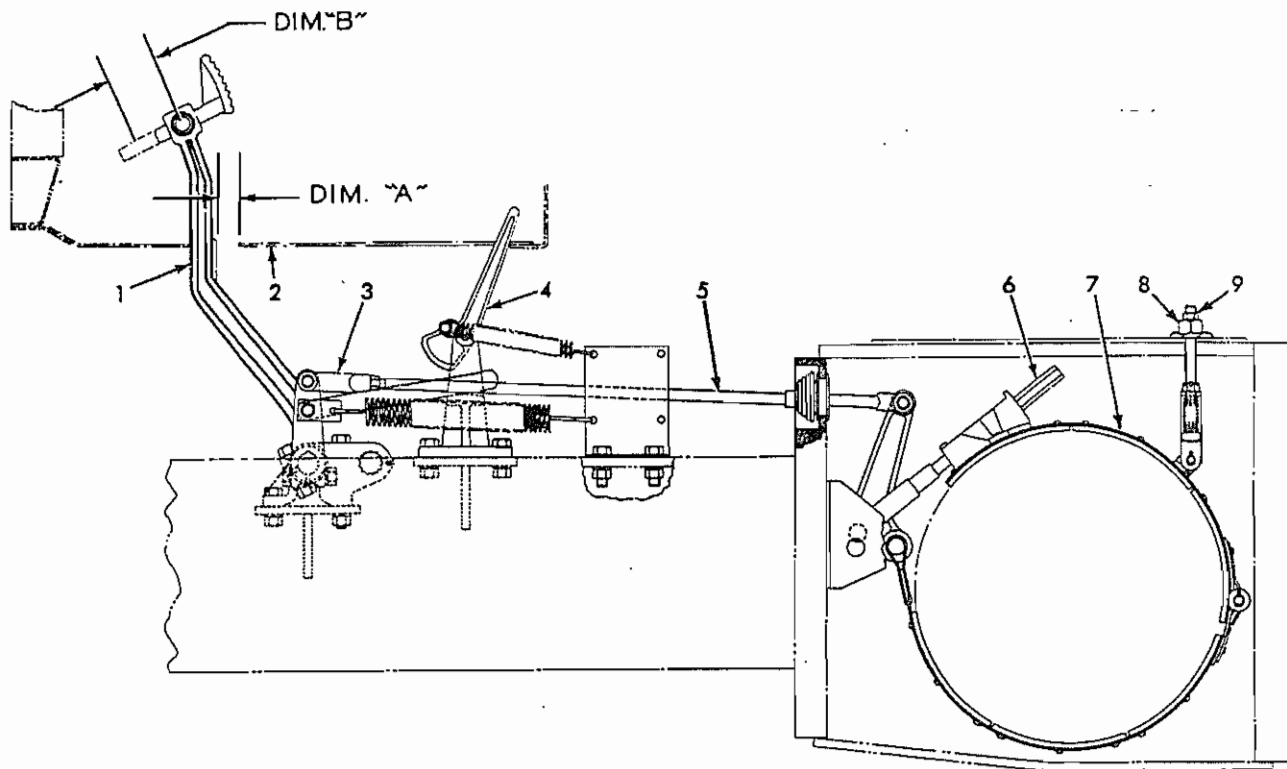

Fig. 24 -- HD11 Brake Linkage
- a. Refer to Fig. 24 and adjust length of brake control rod (5) to obtain DIM. "A" 1/16" (HD11G, GC 1-9/16") floor plate to brake lever clearance.
c. Loosen jam nut, Fig. 24 (9) and band sup-